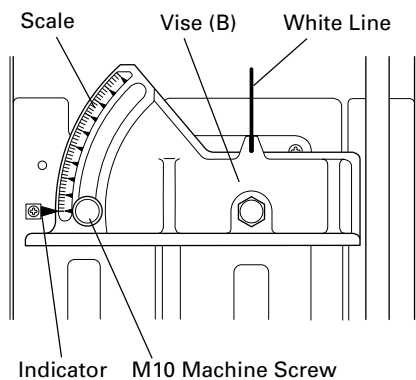

Fig. 15
5. How to adjust 0 position (Fig. 15)